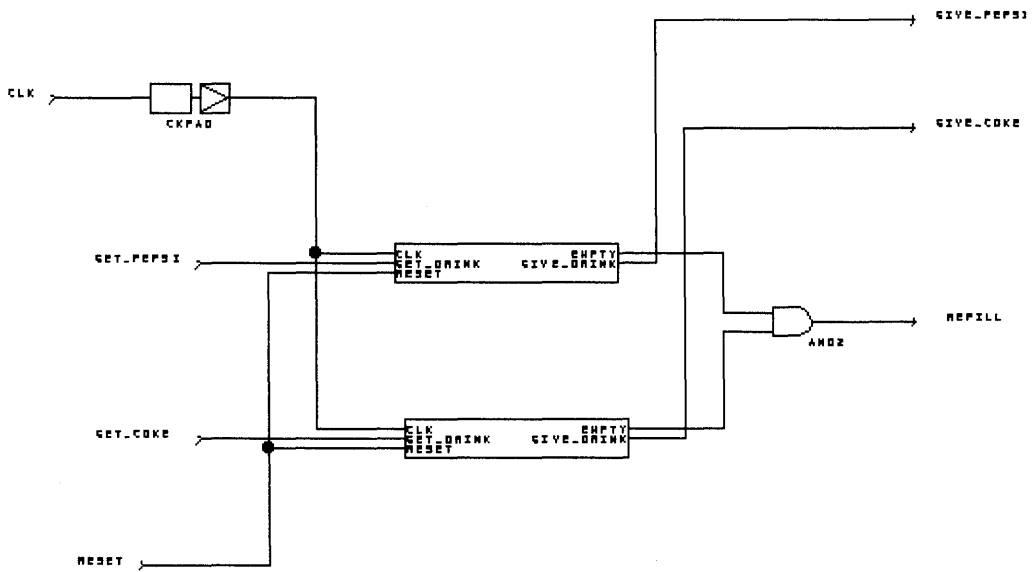

Figure 2-14. Final REFILL Schematic.
The final circuit should look like Figure 2-14.
- all nets are wired so that the schematic looks **EXACTLY** like Figure 2-14.